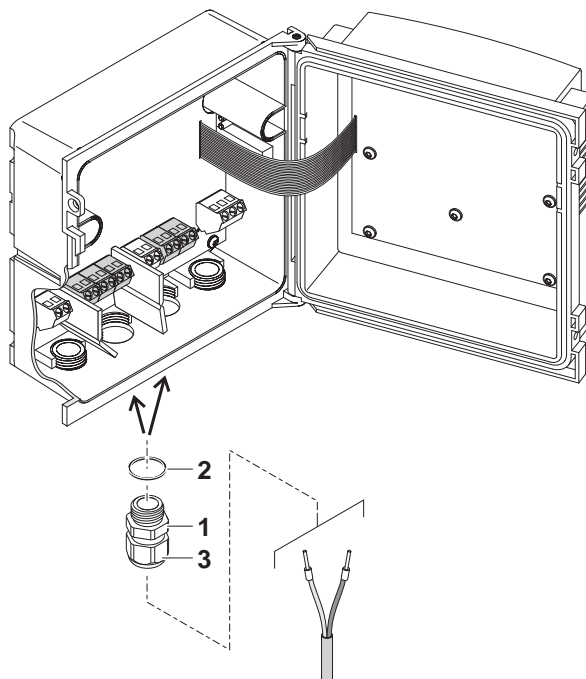

Fig. 3-31 Inserting lines
12	Screw a cable gland (pos. 1 in Fig. 3-31) with the sealing ring (pos. 2) into the enclosure below the respective connections.